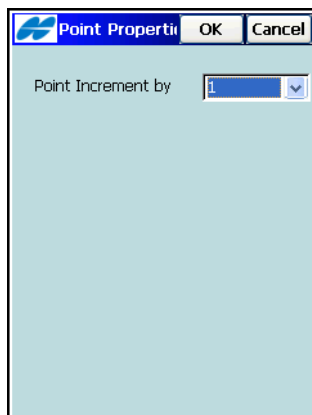

Figure 3-44. Point Numbering
- *Point Properties*: opens the ***Point Properties*** screen to define the point increment value for Survey points (Figure 3-44 on page 3-44).
The *Point Properties* screen sets a user-defined value to increment/decrement the survey point number (Figure 3-44).